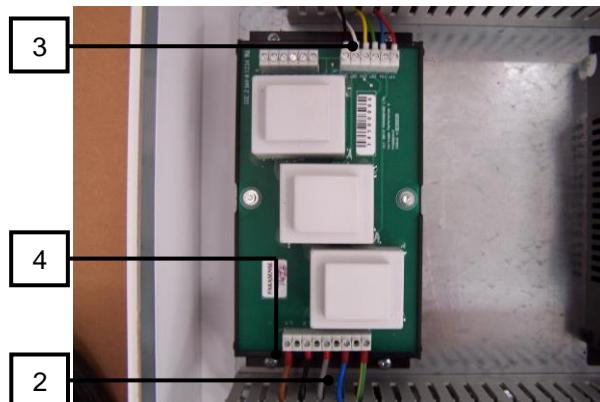

Fig 4.1
Disconnect the power input connections (2) and all output connections (3). Unscrew the four fixing screws (4) holding the voltage reference module in place and remove from the enclosure. (see Figure 4.1).